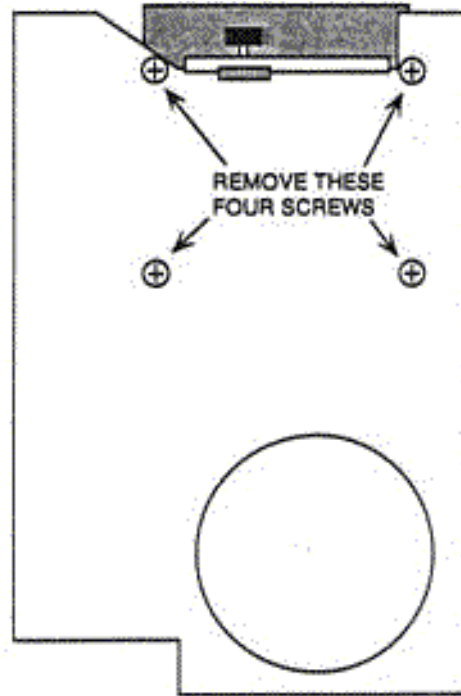

Figure 17
4. Remove the internal disk drive by tilting the drive cage forward and loosening four Phillips-head screws at the bottom. Use a #1 Phillips-head screwdriver. Support the drive with one hand as shown in Figure 17.